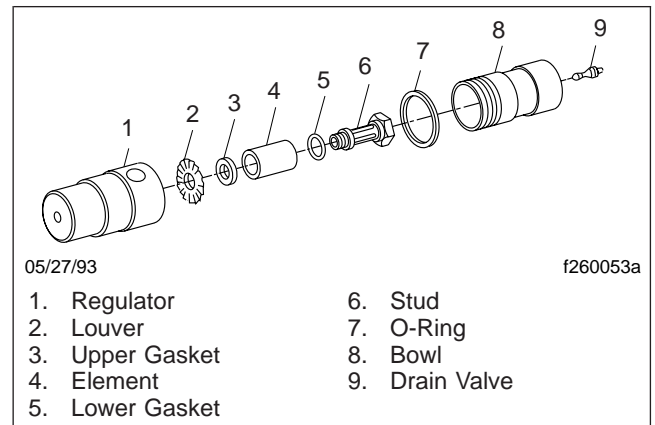

Fig. 6, Spicer Transmission Air Filter/Regulator Components
2. Clean the outside of the air filter/regulator (**Fig. 6**) with cleaning solvent, then let it air dry.